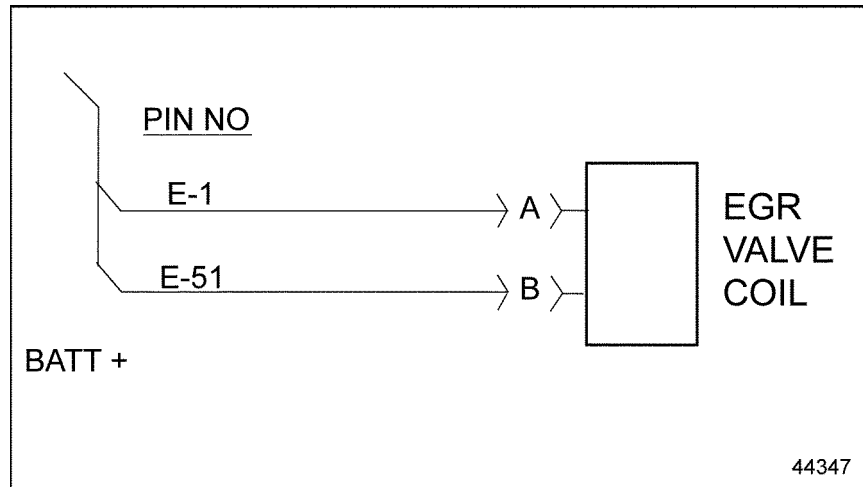

Figure 25-5 EGR Valve Coil Wiring
3. Check electrical power supply. With ignition on, check voltage at pin B to battery ground, it should be battery voltage. See Figure 25-5 .
3. Insert a jumper wire between pins E-51 and E-1. See Figure 25-5.